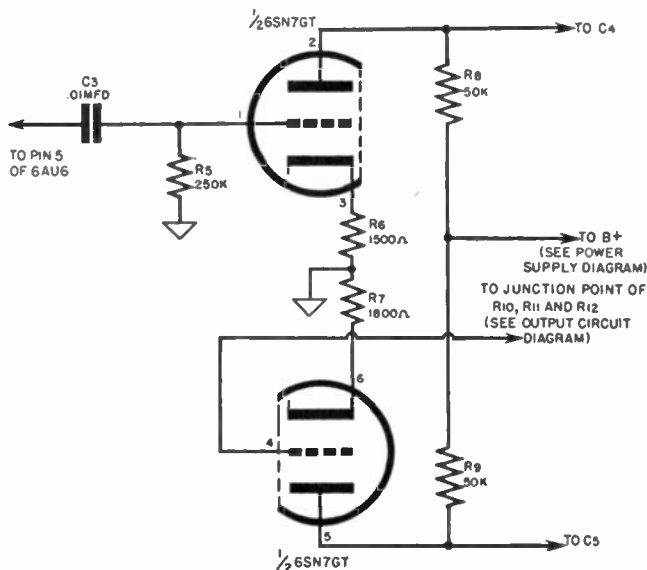

Fig. 5-7. Phase inverter diagram.
d) *Phase Inverter Circuit.* See Figure 5-7.